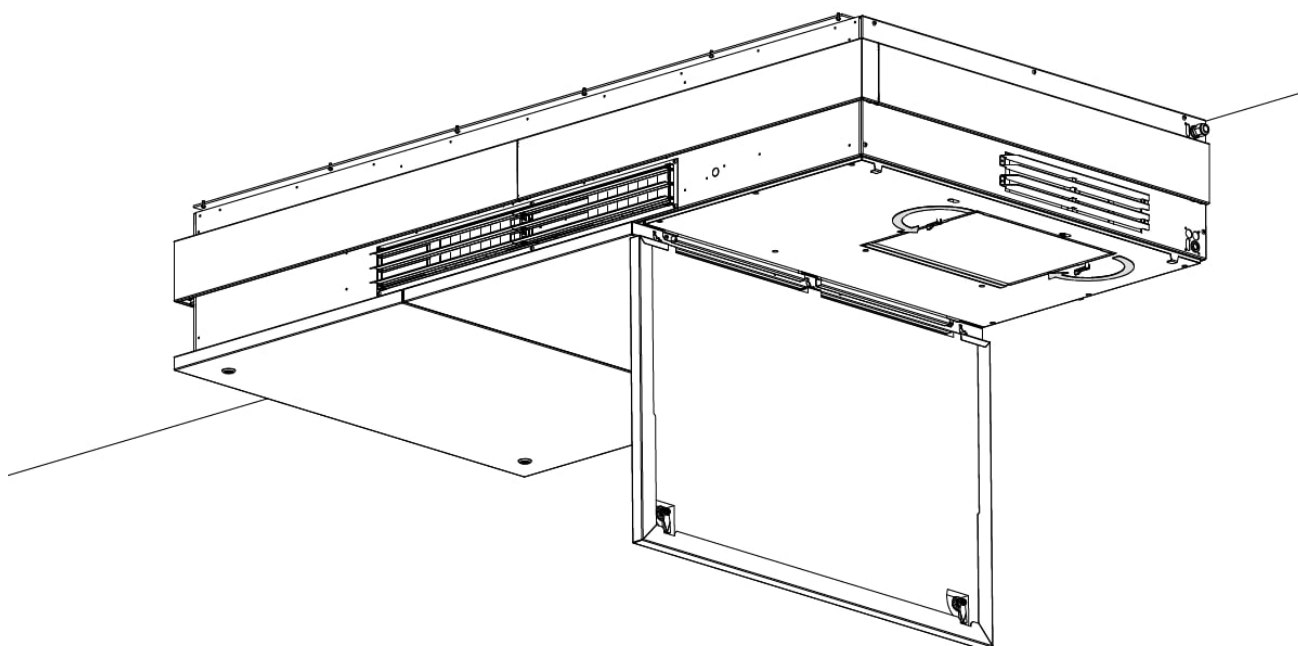

Figure 33: Close the filter hatch
9. Close the filter hatch, see Figure 33.